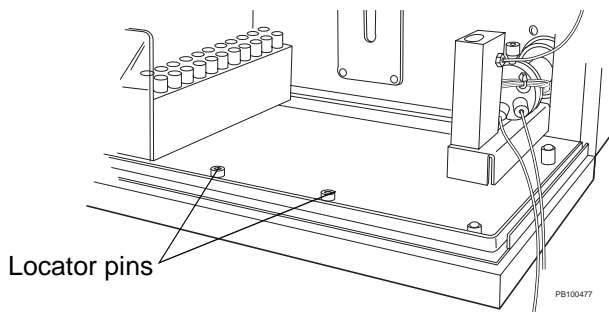

Figure 3-25 Installing Racks in AFC 2000
2. Insert the racks so the holes on the underside of the rack fit over the locator pins on the bottom surface of the AFC 2000 (Figure 3-25).